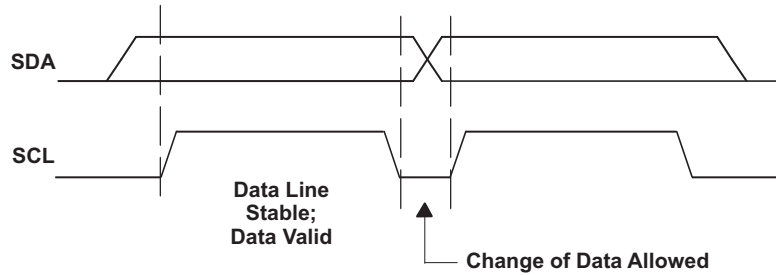
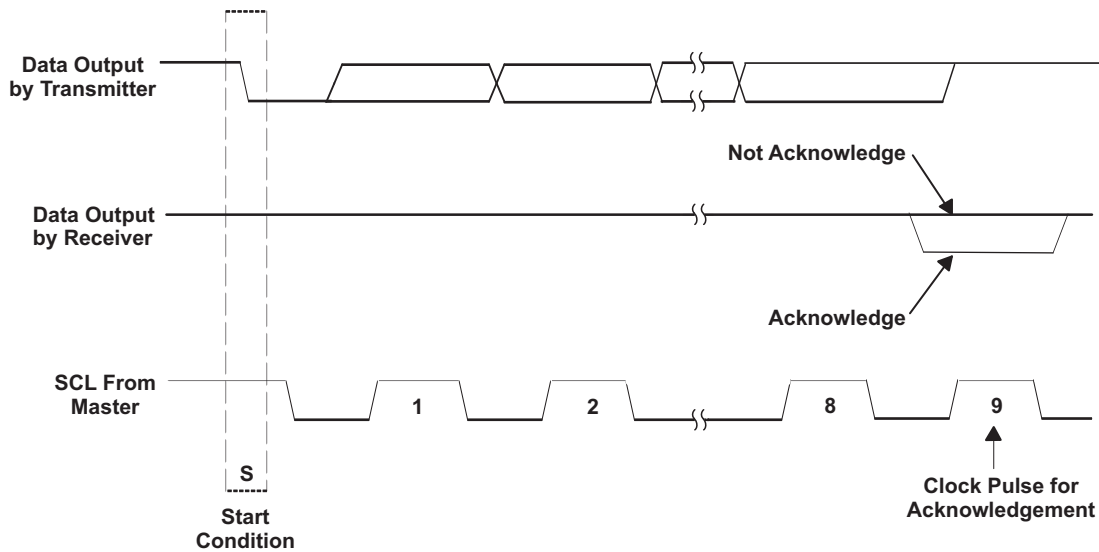

Figure 72. I²C Bit Transfer
Figure 73. I²C Acknowledge
- The master then generates the SCL pulses and transmits the 7-bit address and the read/write direction bit R/W on the SDA line. During all transmissions, the master ensures that data are valid. A valid data condition requires the SDA line to be stable during the entire high period of the clock pulse (see Figure 72). All devices recognize the address sent by the master and compare it to their internal fixed addresses. Only the slave device with a matching address generates an acknowledge (see Figure 73) by pulling the SDA line low during the entire high period of the ninth SCL cycle. On detecting this acknowledge, the master knows that a communication link with a slave has been established.